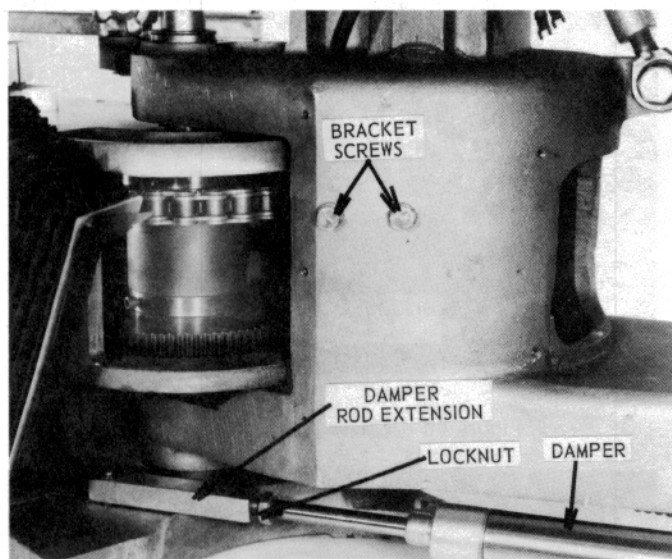
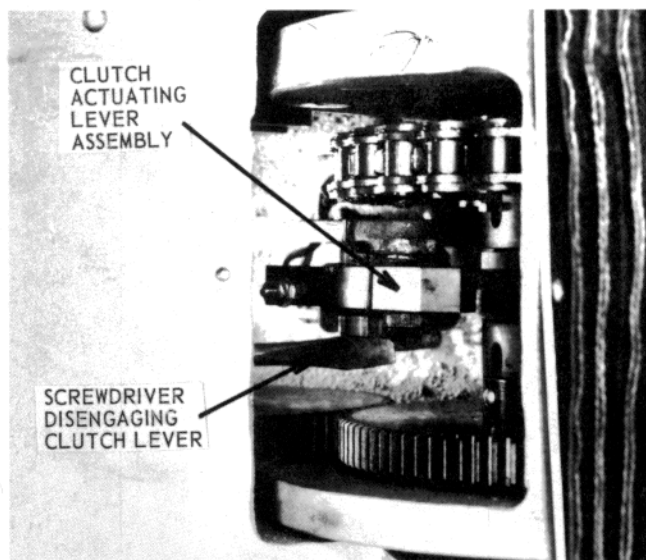
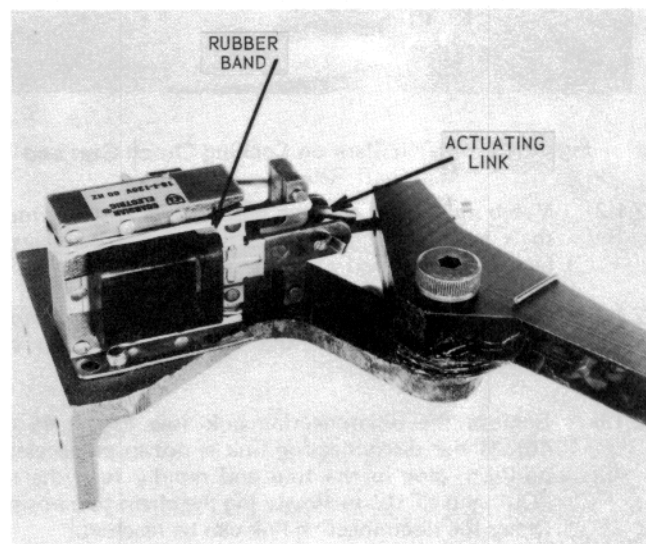

Figure 48 – Damper
Figure 49 – Clutch Actuating Lever Assembly
Figure 50 – Clutch Actuating Lever Assembly
- 2.1.9 Disconnect the damper from the base by loosening the damper rod extension lock nut and screwing the rod out of the damper rod extension (see Figure 48).
- 2.1.10 The clutch actuating lever assembly (see Figure 49) is separated from the housing by removing the two bracket screws (see Figure 48). Assembly removal is much easier if the solenoid armature is not allowed to be pulled out of the solenoid coil by the spring. Holding on to the nylon actuating lever with one hand will ease withdrawal of the assembly. Pull the clutch actuating lever assembly forward and turn it clockwise so that the solenoid is on top. The assembly can now be pulled out the front of the trap by letting the bend of the assembly's profile wrap around the mainshaft assembly. As soon as the terminals are accessible, detach the solenoid wires by pulling the slip-on connectors off the solenoid lugs. A rubber band may be used to keep the armature seated in the coil to prevent damage when being set aside and to ease reassembly. If replaced, the actuating link should be oriented as in Figure 50. When reinstalling the bracket do not overtighten the bracket screws which may strip the threads.